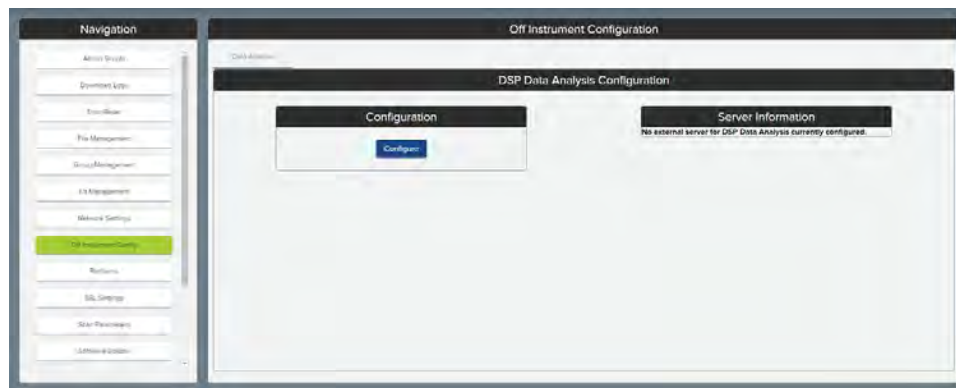

Figure 69: Off Instrument Configuration window
1. Click the **Configure** button (see Figure 69).